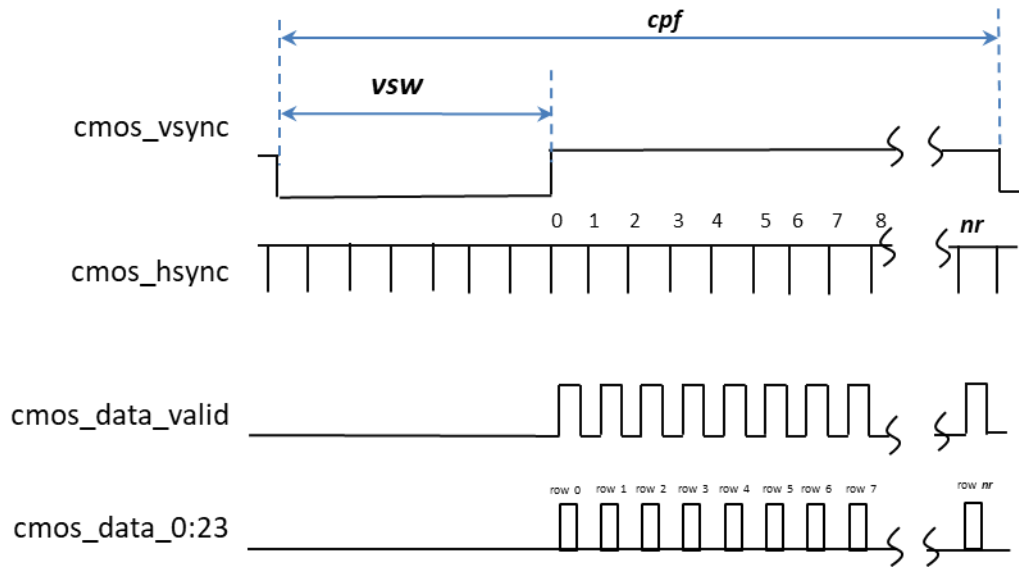

Figure 44: Frame Timing of the CMOS Output Channel
2. Each frame period consists of three distinct sections, as illustrated in Figure 44:
- b. A period during which successive rows of data are provided. The total number of rows during each frame, *nr*, varies depending upon settings, as shown in Table 8. Note that the number of *cmos_hsync* pulses during a frame will typically exceed *nr* because, as illustrated in Figure 44, *cmos_hsync* continues to be output at a regular interval even during the vertical sync and the blanking periods (i.e. even when *cmos_data_valid* is not being asserted).